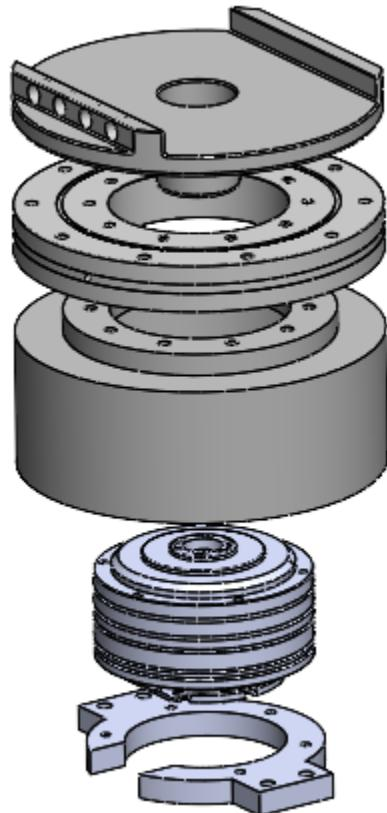

Figure 10: Exploded CAD view of J1 Assembly
- Visually inspect all fasteners to ensure they are fully engaged and tightened. Gently shake the assembled unit to confirm stability. If any movement is detected, re-tighten the appropriate bolts. See Figure 10.